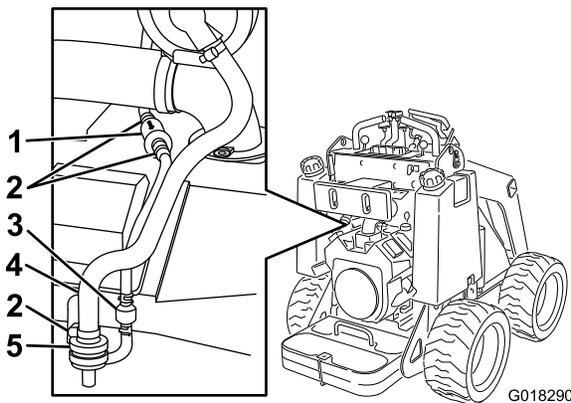

Figure 21
2. Loosen the hose clamp above the carbon canister air filter (Figure 21).
3. Remove and discard the air filter (Figure 21).
4. Install a new filter into the hose and secure it with the hose clamp (Figure 21).
2. Move the spring-type hose clamps on both sides of the carbon canister purge-line filter away from the filter (Figure 21).
3. Remove and discard the purge-line filter (Figure 21).
4. Install a new filter into the hose with the arrow on the filter pointing towards the check valve and secure it with the hose clamps (Figure 21).